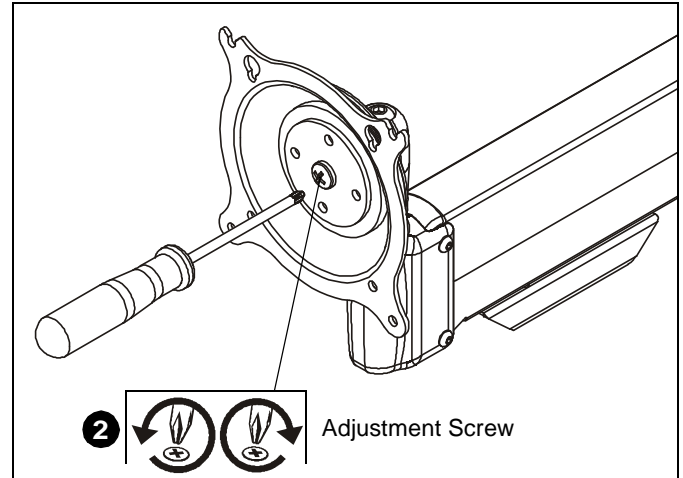

Figure 10
2. Using Phillips screwdriver, slightly loosen or tighten the adjustment screw as necessary (See Figure 10).